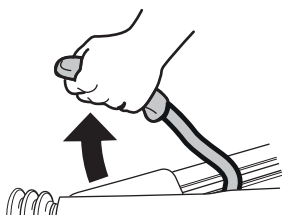

Fig. 8
- ▶ Apply the parking brake and/or secure the tyres with wedges (Fig. 8).